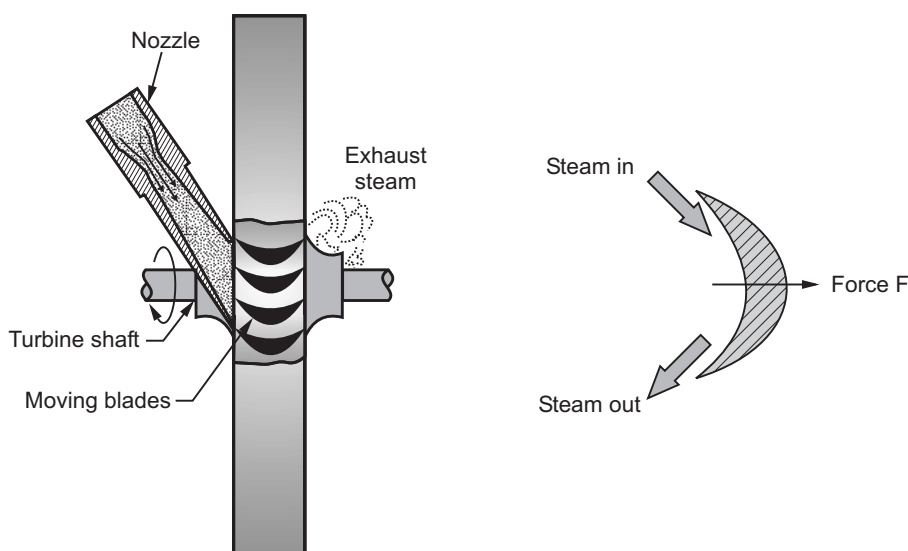

Fig. 3.1 : Working principle of steam turbine
- This high velocity jet of steam is impinged on the blades mounted on a shaft. Refer Fig. 3.1.